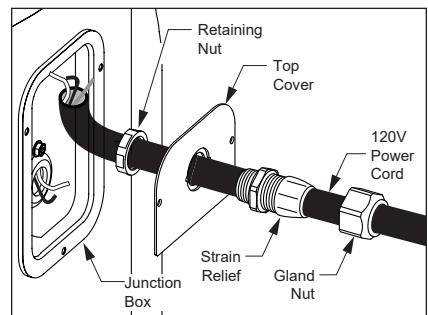

Figure 48 - Remove Power Cord from Strain Relief
- 8** Loosen gland nut from strain relief (see Figure 48). Once the gland nut has been loosened, carefully pull the power cord through the gland nut, strain relief, top cover and retaining nut. Be careful not to drop components after removing the power cord.
- 10** Slide power cord through strain relief assembly components as shown in Figure 48 above.